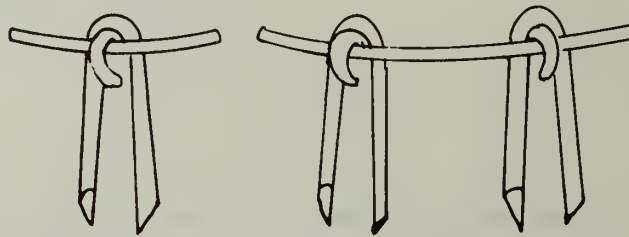

Figure 40. Stapling around Curves or Corners
6. When stringing and tensioning line wires around the outside of posts stapling can be used to reduce friction. Simply hang a staple over the securing staple and between the wire and the post so the line wire is sliding on the staple rather than the post (Fig. 40).